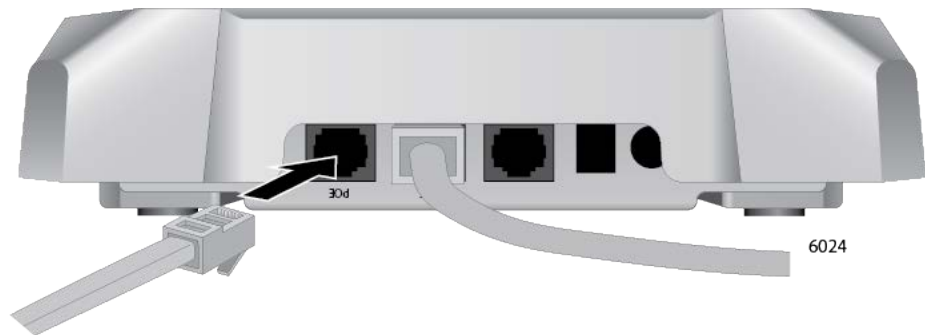

Figure 22. Connecting the Ethernet Cable to PORT2
3. To use PORT2 in the static LAG or Cascade mode, connect a second Ethernet cable to the port. See Figure 22.